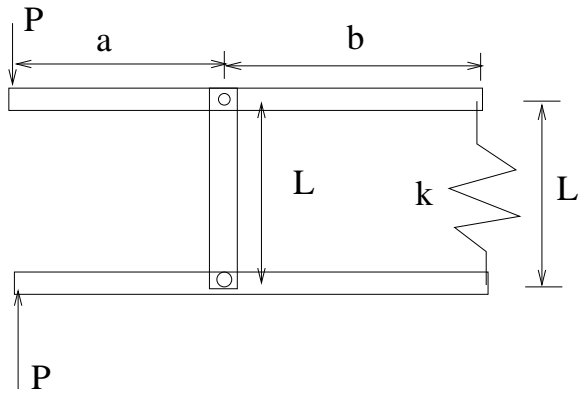

Figure 4: Problem 4.
4. Consider the setup shown in Fig. 4. The spring has a spring constant k . The vertical bar is joined to the horizontal ones using pin joints. Apart from the lengths, all geometrical and material properties of all members (other than the spring) are identical. The original (undeflected) length of the spring before the application of the load P is L . Find the deflection under the load P . (30)